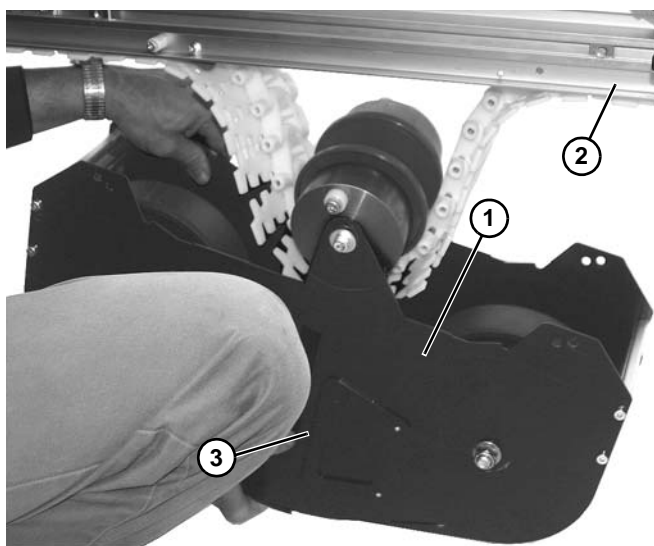

Figure 148
2. Lower weighted take up assembly (Figure 148, item 1) from conveyor (Figure 148, item 2) by disengaging locking teeth (Figure 148, item 3) on both sides.